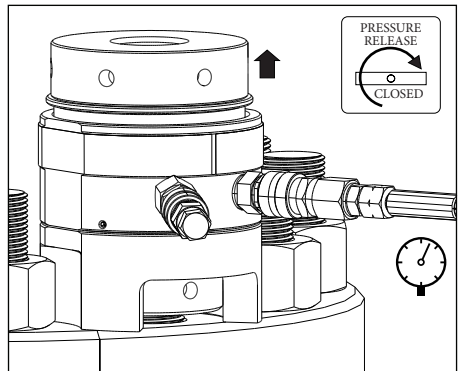

FIGURE 8, PRESSURIZING THE TENSIONER
6. When the calculated hydraulic pressure is reached, stop the pump. Recheck the oil pressure gauge after pump has stopped. Be sure the pressure is stable (not increasing or decreasing). Threads may be visible between the nut and the joint surface at each tensioner. See Figure 8.
- When the “first pass” pressure “A” is reached, stop the pump. Recheck the oil pressure gauge after pump has stopped. Be sure the pressure remains stable (not increasing or decreasing). Threads may be visible between the nut and the joint surface at each tensioner. See Figure 8.
18. When the “second pass” pressure “B” is reached, stop the pump. Recheck the oil pressure gauge after pump has stopped. Be sure the pressure remains stable (not increasing or decreasing). Threads may be visible between the nut and the joint surface at each tensioner. See Figure 8.